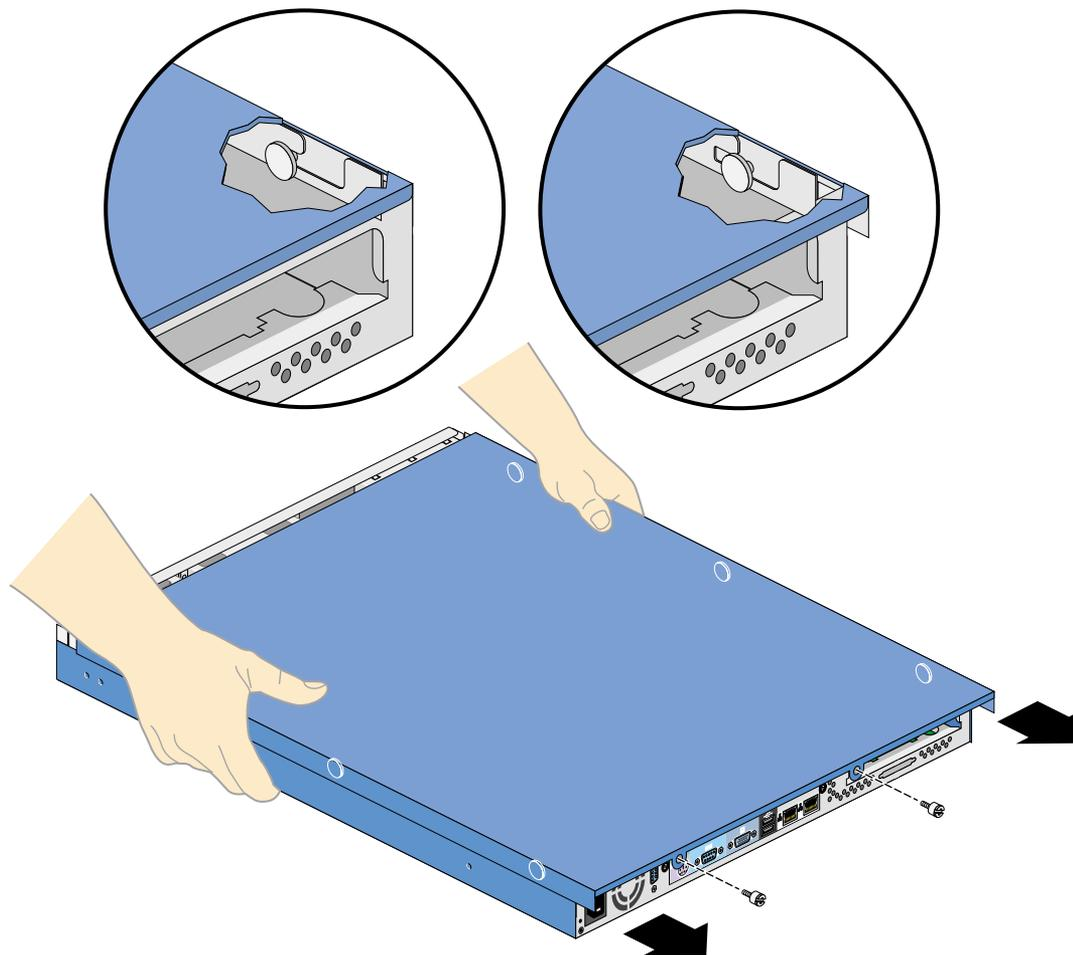

Figure 2-1 Removing the Chassis Cover
3. Release the two screw knobs at the rear of the chassis, as shown in Figure 2-1.
4. Slide the chassis cover towards the rear of the chassis about 1 inch (2.5 cm), as shown in Figure 2-1.